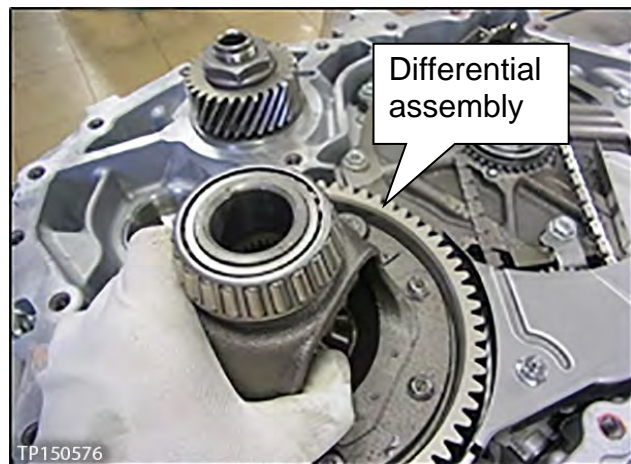

Figure 7B
6. Carefully remove the differential assembly (Figure 7B).